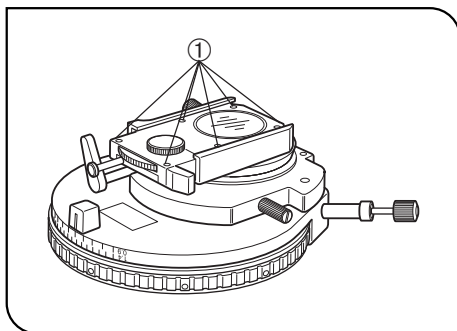

Fig. 33
1. Using a Phillips precision screwdriver, remove the 6 clamping screws ① retaining the polarizer cover at the bottom side of the condenser. (Fig. 33)